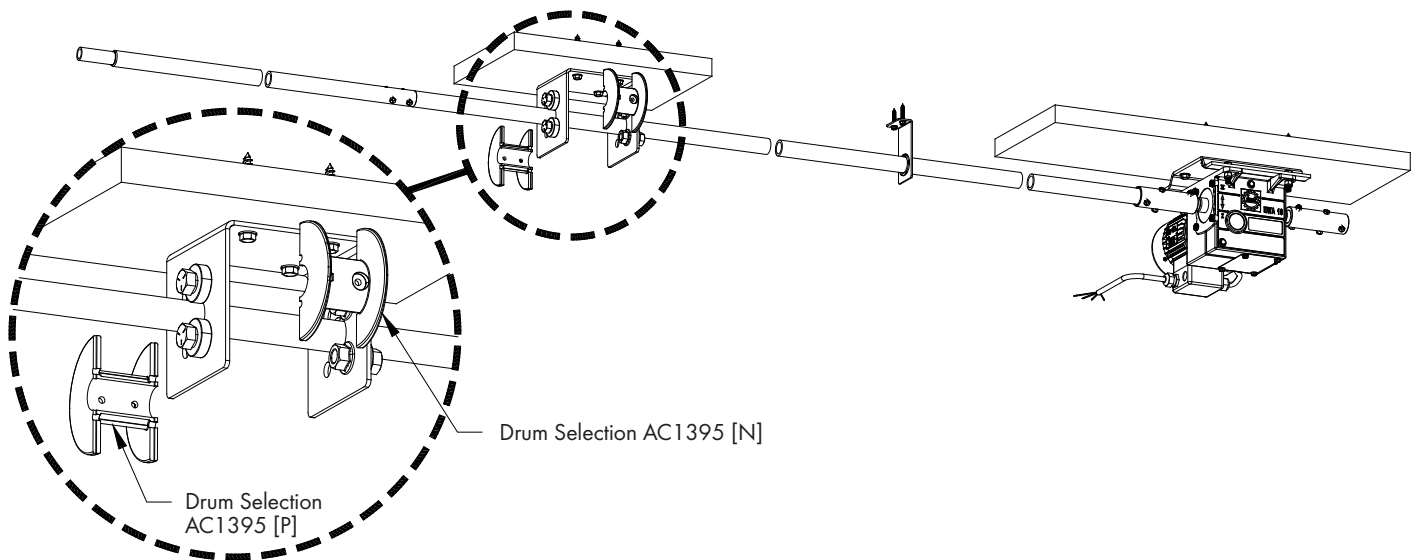

Figure 8
Find (2) AC1395 Drum Section [N] halves and put them together over the pipe in the Ball Bearing Mounting Bracket. While holding these pieces together use a $\frac{5}{32}$ " drill bit and drill through the pipe using the indentations as a drill guide. See Figure 8.